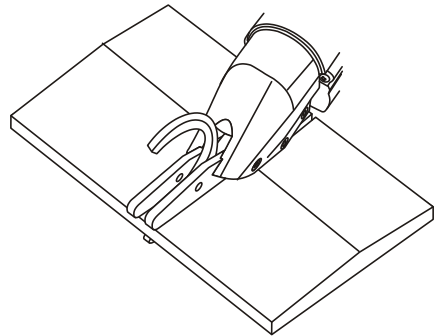

Fig. 4
2. Squeeze the switch trigger and gradually move the cutting blades into the workpiece (Fig. 4).